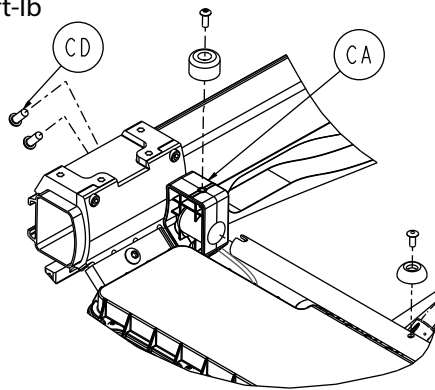

Figure 74 – Remove the Gatch bumper housing
6. Using a T27 Torx driver, remove the two button head cap screws (CD) that secure the Gatch bumper housing (CA) to the hitch bracket (Figure 74). Remove and save the Gatch bumper housing. Save the screws. Repeat on the other side.